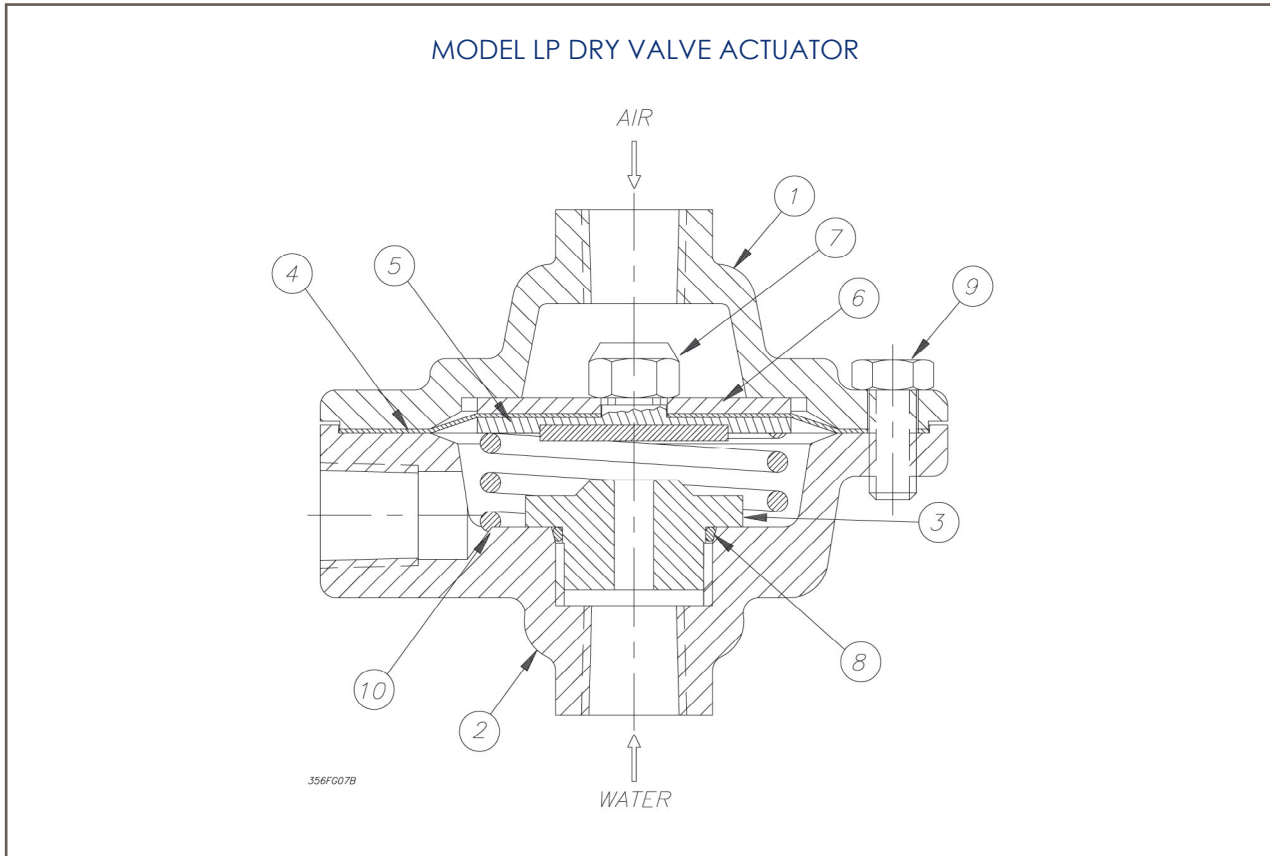

Fig. 7
3. Remove all six bolts (#9, Fig. 7) holding the Actuator together. Clean or replace the facing plate assembly (#5, Fig. 7) and seat (#3, Fig. 7).
4. Reassemble the Actuator, using a torque of 8 ft-lbs on the facing plate nut (#7, Fig. 7) and 12 ft-lbs on the six bolts (#9, Fig. 7). Use a cross-tightening pattern. Reinstall the Actuator. Set up the Model DDX-LP Dry Pipe Valve as per the section "Resetting Model DDX-LP Dry Pipe Valve System."